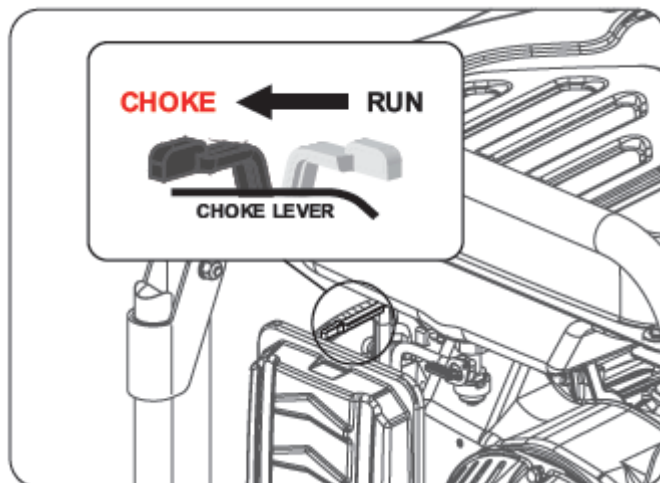

Fig.11
- Slide the choke lever to the "Choke" position. (See Fig.11) **SKIP THIS IF THE ENGINE IS WARM OR HOT.**